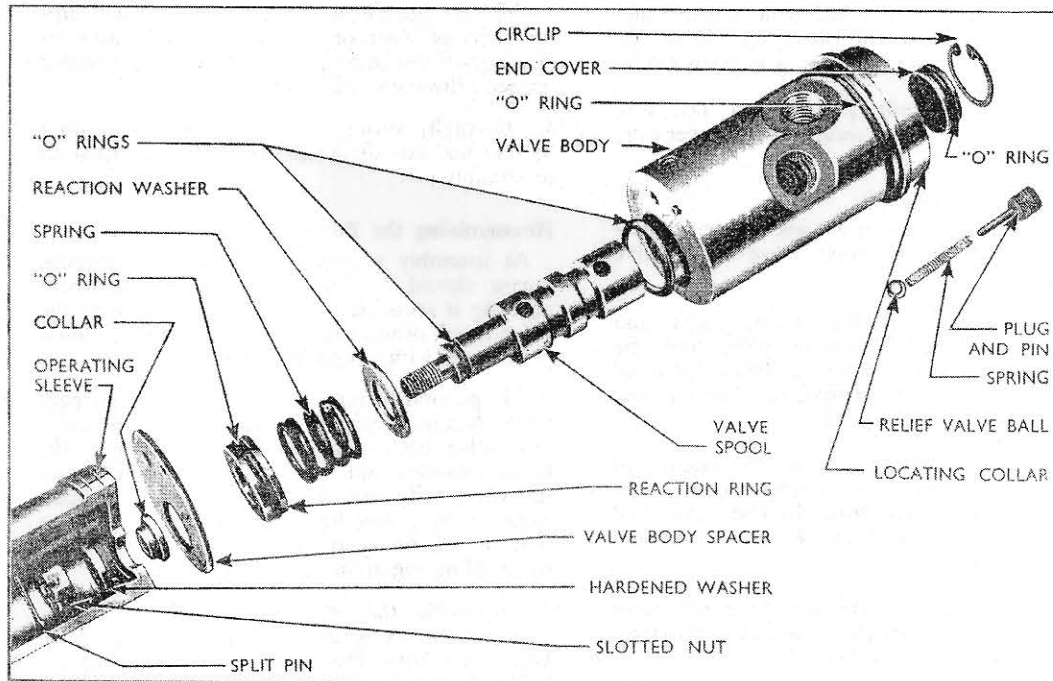

Fig. 9
When the steering wheel is turned, the movement of the steering drag link transmits the manually applied force to the control valve spool. The spool moves approximately .045 in. (1.1 mm.) until it contacts its stop, then the full manual effort is transmitted mechanically to the steering linkage. With the valve spool in the off-centre position oil is directed directly to either end of the power cylinder through the small relief valve in the valve body. (See Fig. 9.) Thus, manual move-
16. Remove the operating sleeve, collar and valve body spacer from the valve spool. Slide the reaction ring, spring and washer from the spool and remove the "O" rings from the reaction ring and valve spool. (See Fig. 9).
19. If required remove the locating collar from the end of the valve body (see Fig. 9), and if damaged or loose remove the locating pins from the valve body and collar.
1. If previously removed, fit new locating pegs to the locating collar (four-wheeled tractors only) and valve body, tapping them lightly into the holes provided, and install the locating collar on the valve body (see Fig. 9) by means of a small press or by a few light taps with a wooden or hide mallet, lining up the slot in the collar with the locating peg in the valve body.
ing it to a torque of 10 to 16.5 lbs. ft. (1.38 to 2.28 kg.m.). Secure the nut with a new split pin. (See Fig. 9.)